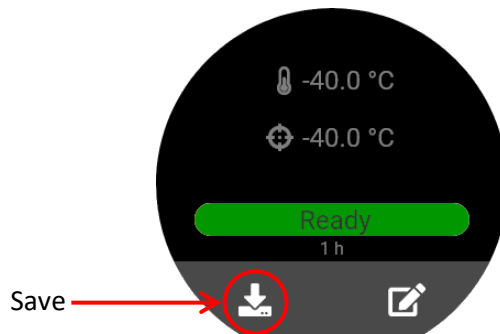

Figure 52: Save Temperature Offset
10. Press **Save** on the base unit to save the new offset. See Figure 52.